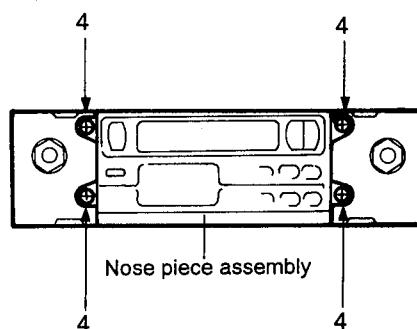

Fig. 4-4
■ Nosepiece assembly (Fig. 4-4)
- Remove four screws (4) retaining the nosepiece assembly from the front of the set.